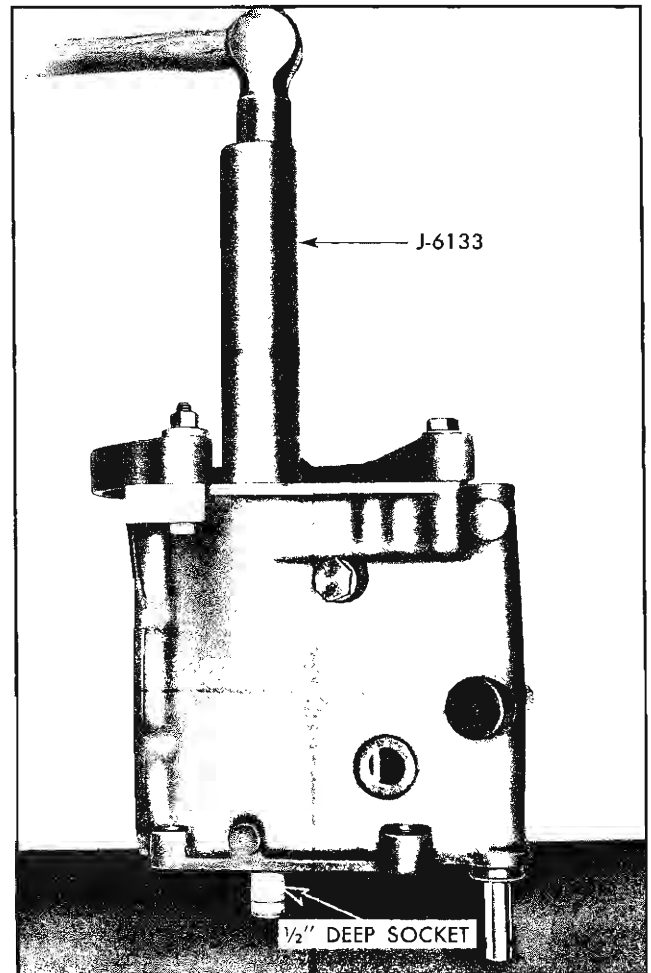

Fig. 7-42 Making Snap Ring Groove Accessible
23. Install  $\frac{1}{2}$ " deep socket in clutch gear and continue to drive on mainshaft bearing until the snap ring groove on mainshaft is accessible (Fig. 7-42).